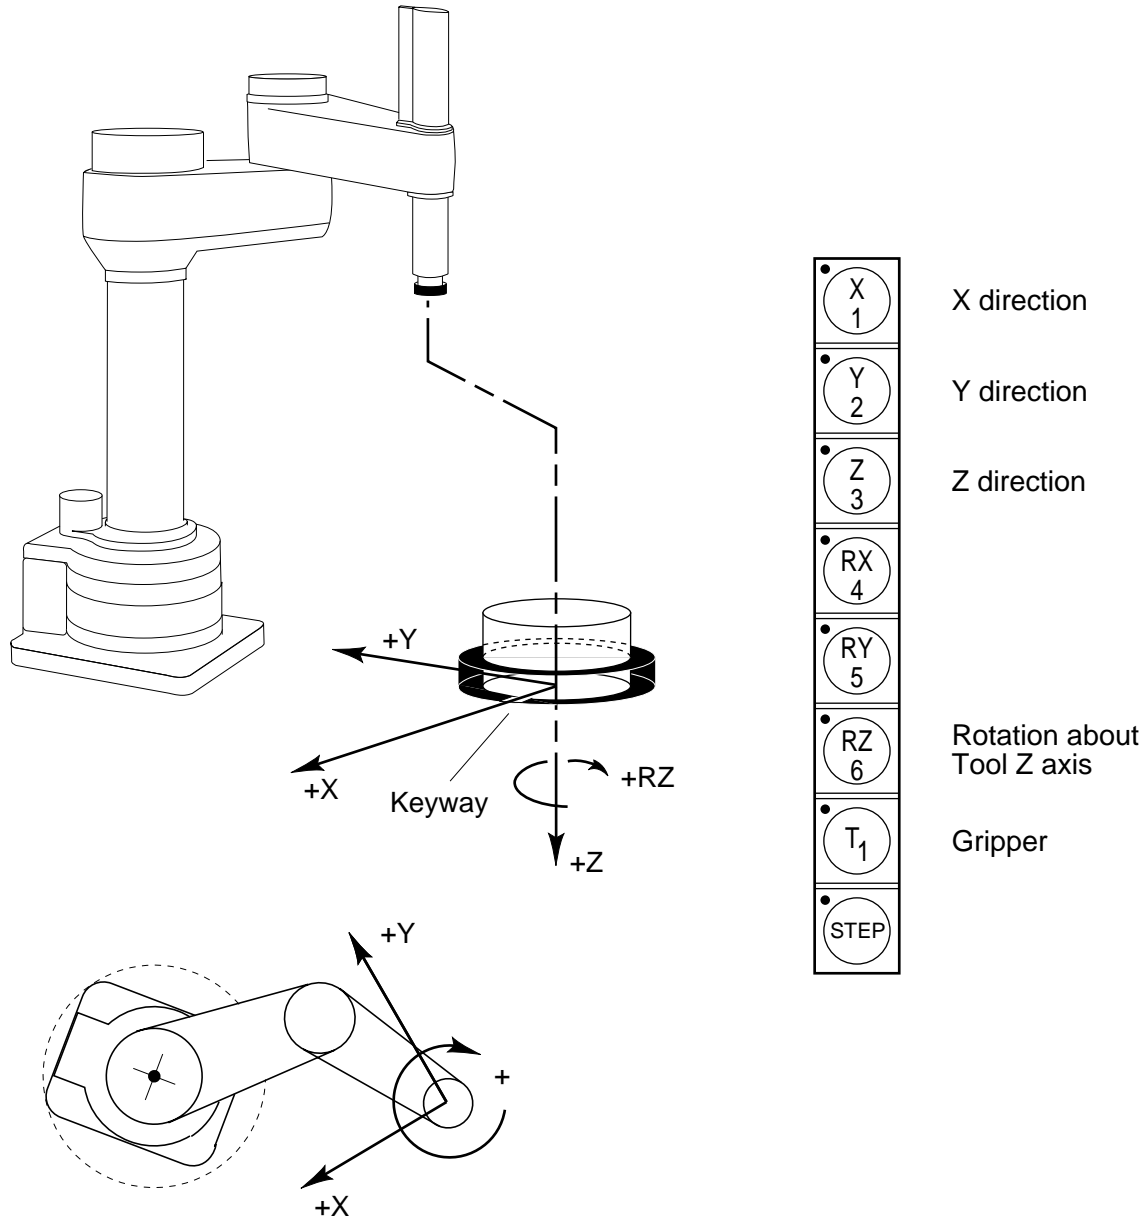
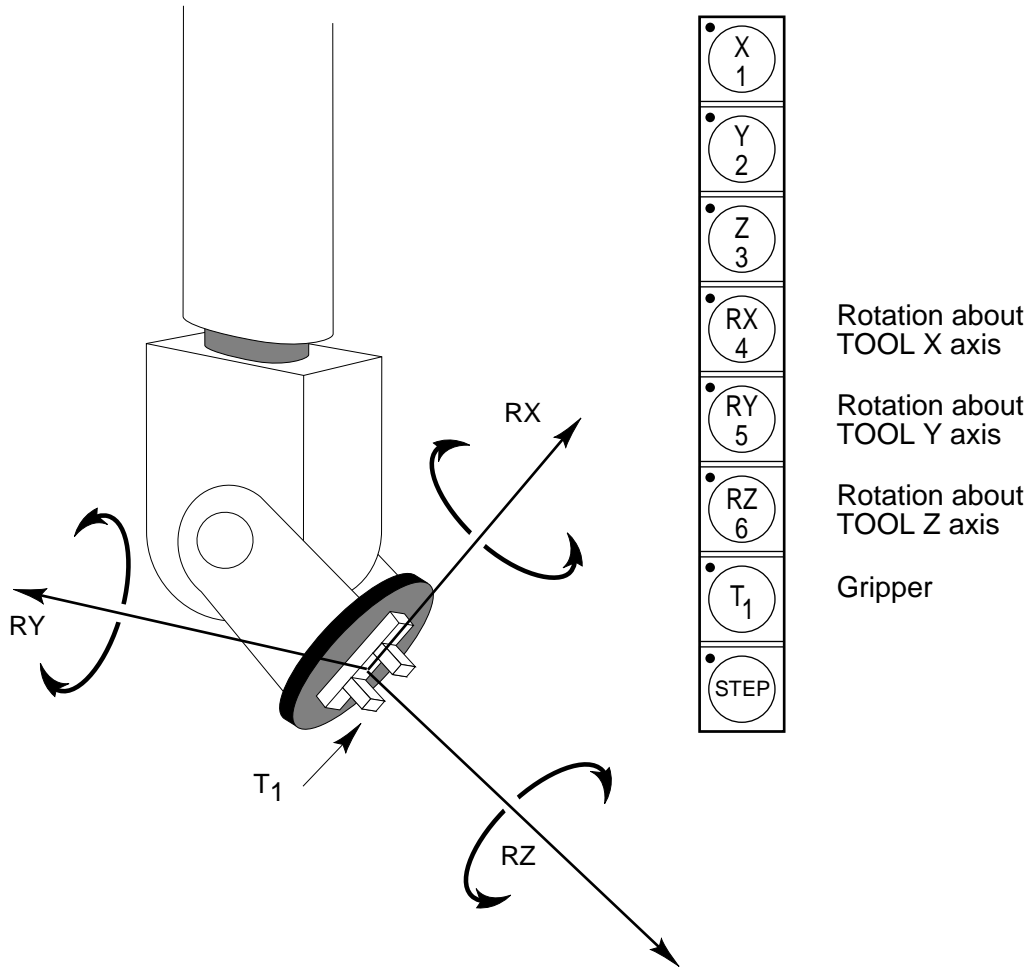

Figure D-14. TOOL State
Figure D-15. TOOL State (Six-Axis Robot)
In a four-axis robot, positive rotation of the gripper (RZ) is clockwise as viewed from above. Figure D-14 shows the tool coordinate system for a four-axis SCARA robot.
Figure D-15 shows the tool coordinate system on a six-axis robot.
**NOTE:** Figure D-14 and Figure D-15 are drawn with the assumption that the TOOL transformation is set to NULL (all values are 0). If a TOOL transformation is in effect, the tool coordinate system will be offset and rotated by the value of the TOOL transformation. Any motion in tool state will now be relative to the offset coordinate system, and not the center of the tool flange. See the *V+ Language Reference Guide* for details on TOOL transformations.